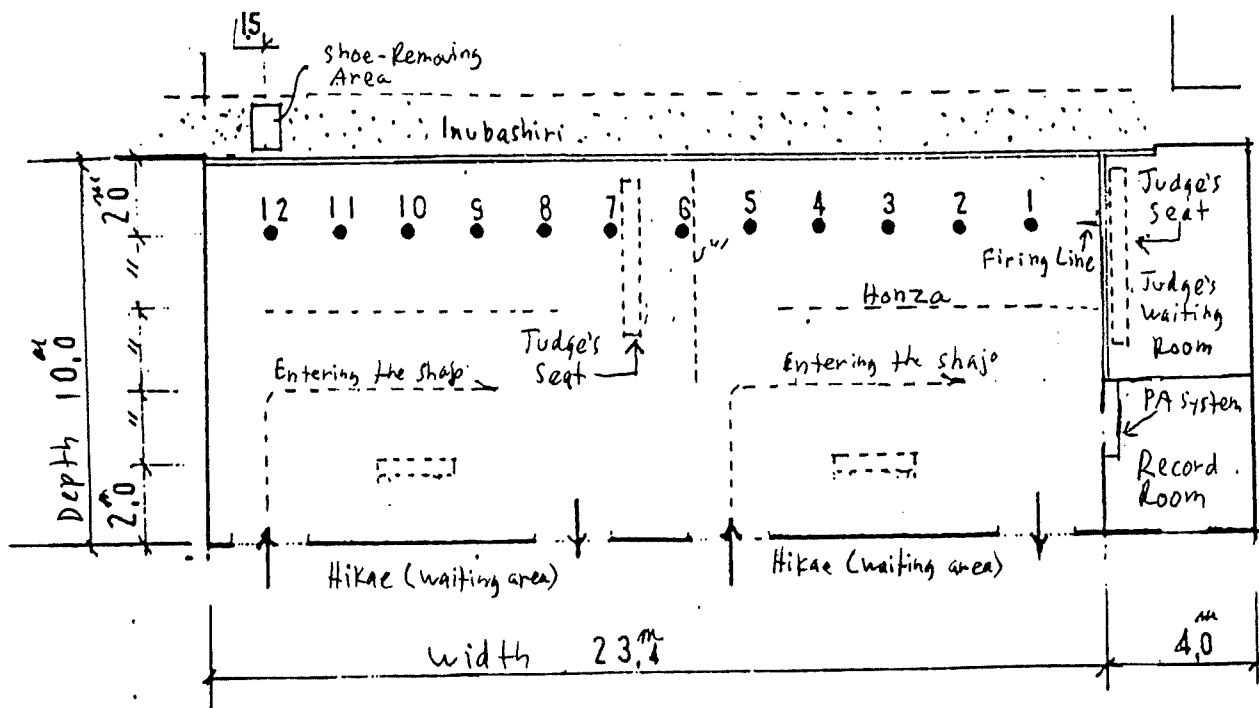

Figure 3 Sample Layout Of A 12 Person Shajo With 1.8 Meters Between Archers
5. About 1.5 meters from the left edge of the front of the floor, a platform for removing shoes about 0.6 meters in width should be placed in the inubashiri. (For ceremonies, the *kaizoe* [assistant] will assume the *sonkyo* [crouching] position here.) See Figure 3.